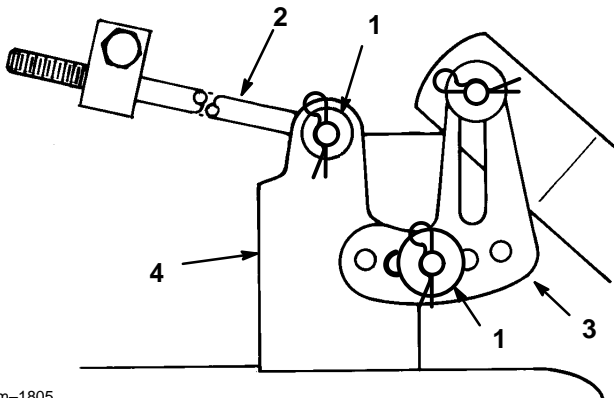

Figure 39
- 8. Remove the hair pin cotter and washer at the top of the mower leveling bracket (Fig. 39). Now slide the bracket off the mounting pin. Repeat this step on the opposite side of the mower.
- 9. Remove the hair pin cotter and washer from the end of the long rod (Fig. 39). Now slide the rod out of the mower mount. Repeat this step on the opposite side of the mower.